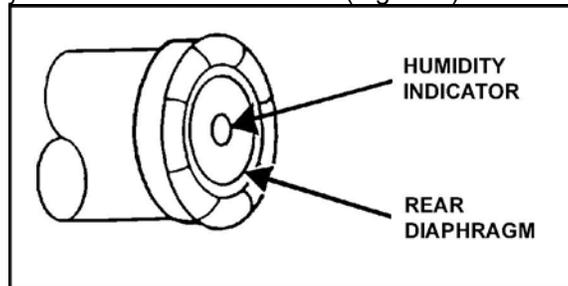

Figure 6. Humidity indicator.
- Check the humidity indicator. It should be blue (Figure 6).